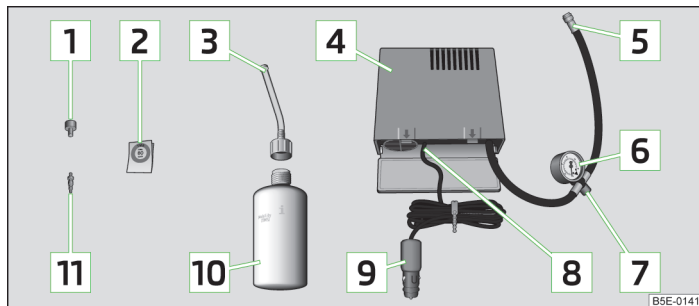

Fig. 202 Components of the breakdown kit
Components of the breakdown kit » Fig. 202.
- Stick the sticker [2] » Fig. 202 on page 241 onto the dash panel in the driver's line of vision.
- Forcefully shake the tyre inflator bottle [10] » Fig. 202 on page 241 back and forth several times.
- Screw the air compressor tyre inflation hose [5] » Fig. 202 on page 241 firmly onto the tyre valve.